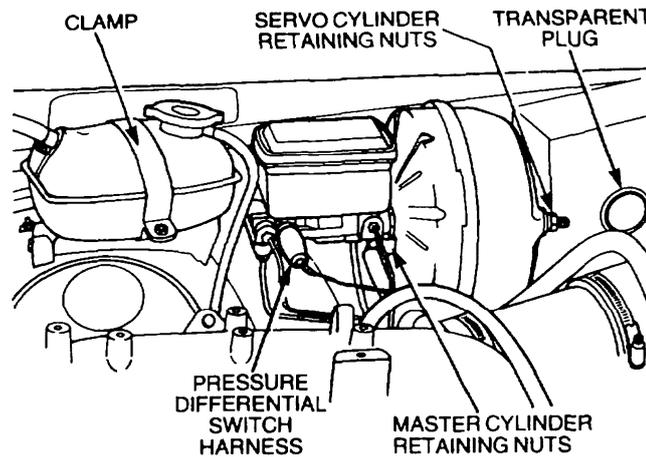

Figure 123 Servo Cylinder Removal
- b. Remove the clamp securing the expansion tank (Figure 123) to the mounting bracket and place the tank on the right-hand mudguard.